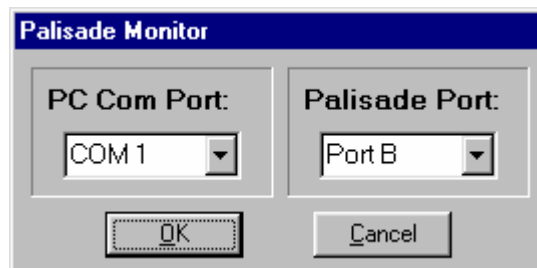

Figure 7 Palisade (Acutime 2000) Monitor Start-up Screen
- If the GPS system is back on line, the sync status check boxes will return to the normal state indicated in Figure 7. If the GPS system is still off line, the user will observe a repeat of the sequence listed above.
The start-up screen for the Palisade (Acutime 2000) is shown in Figure 7.